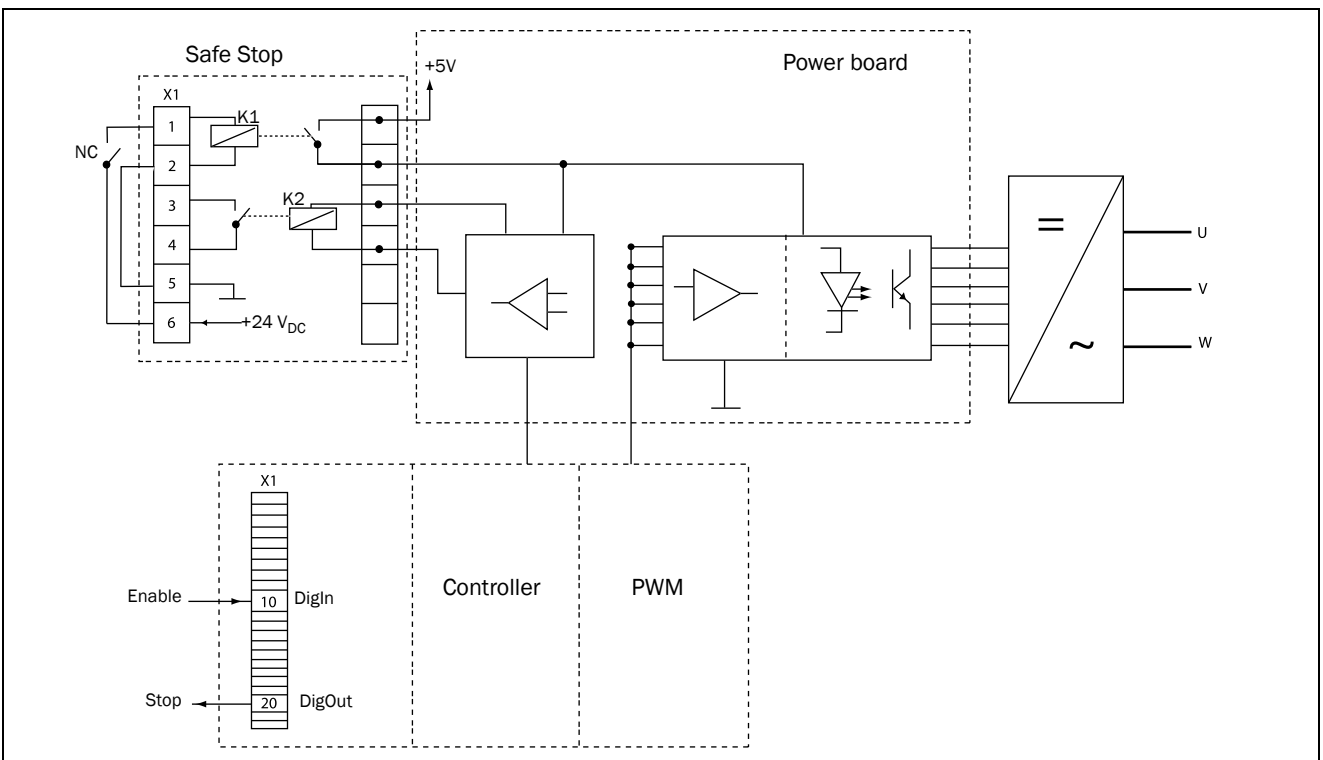

Fig. 122
- "Inhibit" input, terminals 1 (DC+) and 2 (DC-) on the Safe Stop option board should be made active by connecting 24 V_{DC} to secure the supply voltage for the driver circuits of the power conductors via safety relay K1. See also Fig. 122.
- High signal on the digital input, e.g. terminal 10 in Fig. 122, which is set to "Enable". For setting the digital input please refer to section 11.5.2, page 130.
To monitor the "Enable" function, the selection "RUN" on a digital output can be used. For setting a digital output, e.g. terminal 20 in the example Fig. 122, please refer to section 11.5.4, page 136 [540].